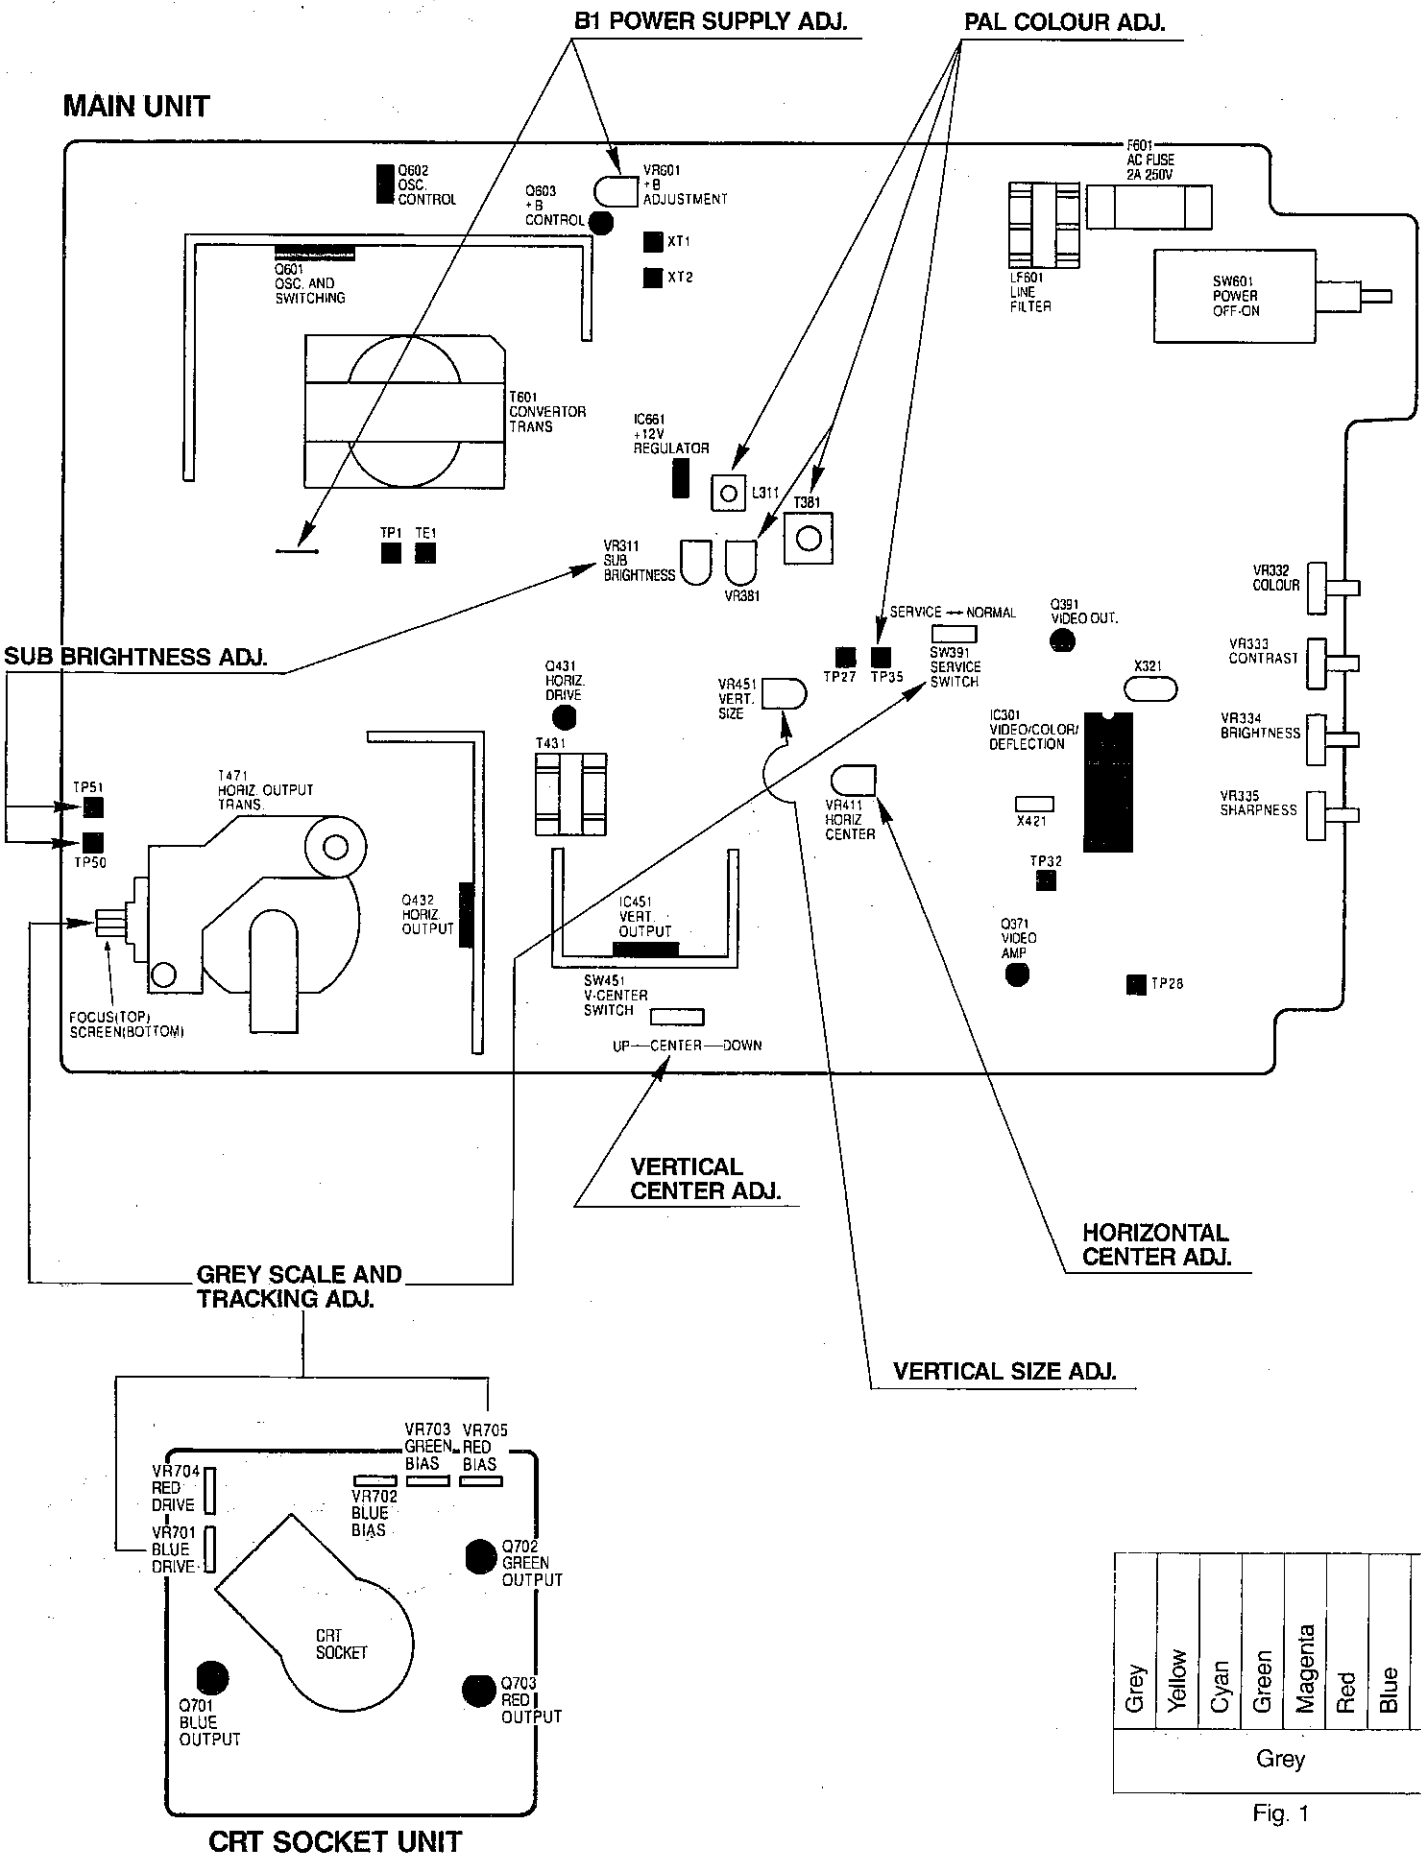

Fig. 1
Receive colour bar pattern. (See Fig. 1)
1. Refer to Figure 1 and remove screws (12 screws).